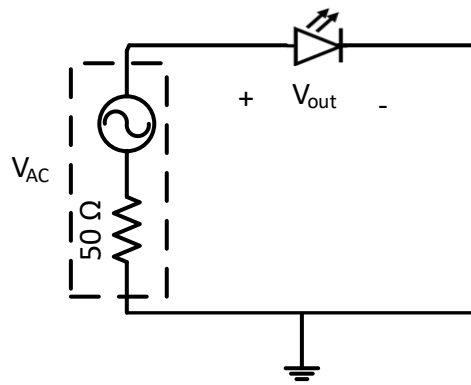

Figure 8: LED Connected to a Function Generator
- 4.1** Build the circuit shown in Figure 8. Set the signal of the function generator to a square wave of 30 Hz and the DC offset to zero. Starting from an AC input voltage of 0 V, increase the amplitude of the signal gradually until the LED turns on. Do not apply more than 6 V peak-to-peak across the LED to avoid burning the device. Record the minimum amplitude of V_{AC} that activates the LED.